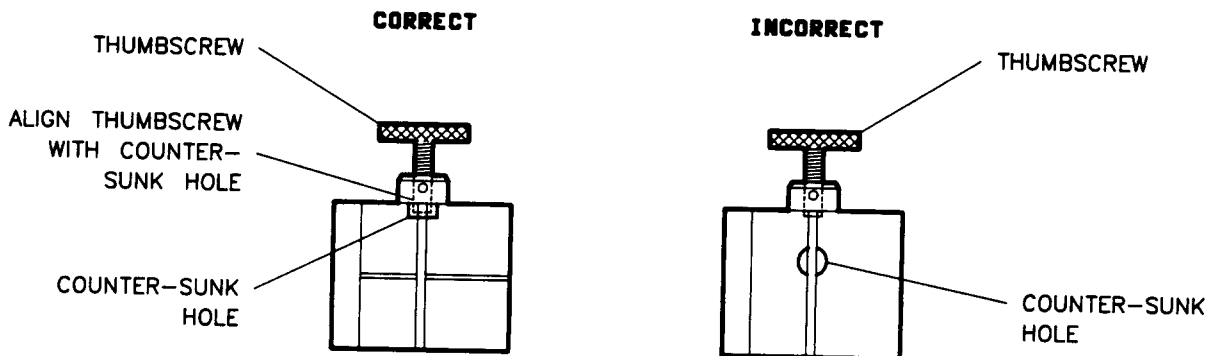

Figure 3-6 Aligning the Thumbscrew With the Counter-bored Hole
See Figure 3-6. Maneuver the clamp over the RF connector and onto the test port connector.
3. Make sure the thumbscrew is aligned with the counter-sunk hole in the clamp body. Push the clamp toward the test set front panel and then tighten the thumbscrew with your fingers. The cable cannot be damaged by tightening the thumbscrew too tightly. Refer to Figure 3-6.